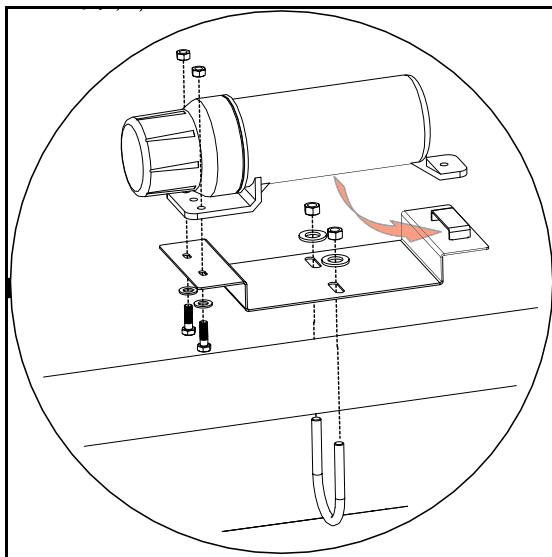

Figure 3.37
- ➔ 2. For WR60/80 x 26'-51' and WR100 x 31'-41' auger models: Attach the manual container bracket to the top of the axle, centered between the two wheels, using a 3/8" x 2-1/2" U-bolt, two 3/8" washers, and two 3/8" locknuts (see Figure 3.37).